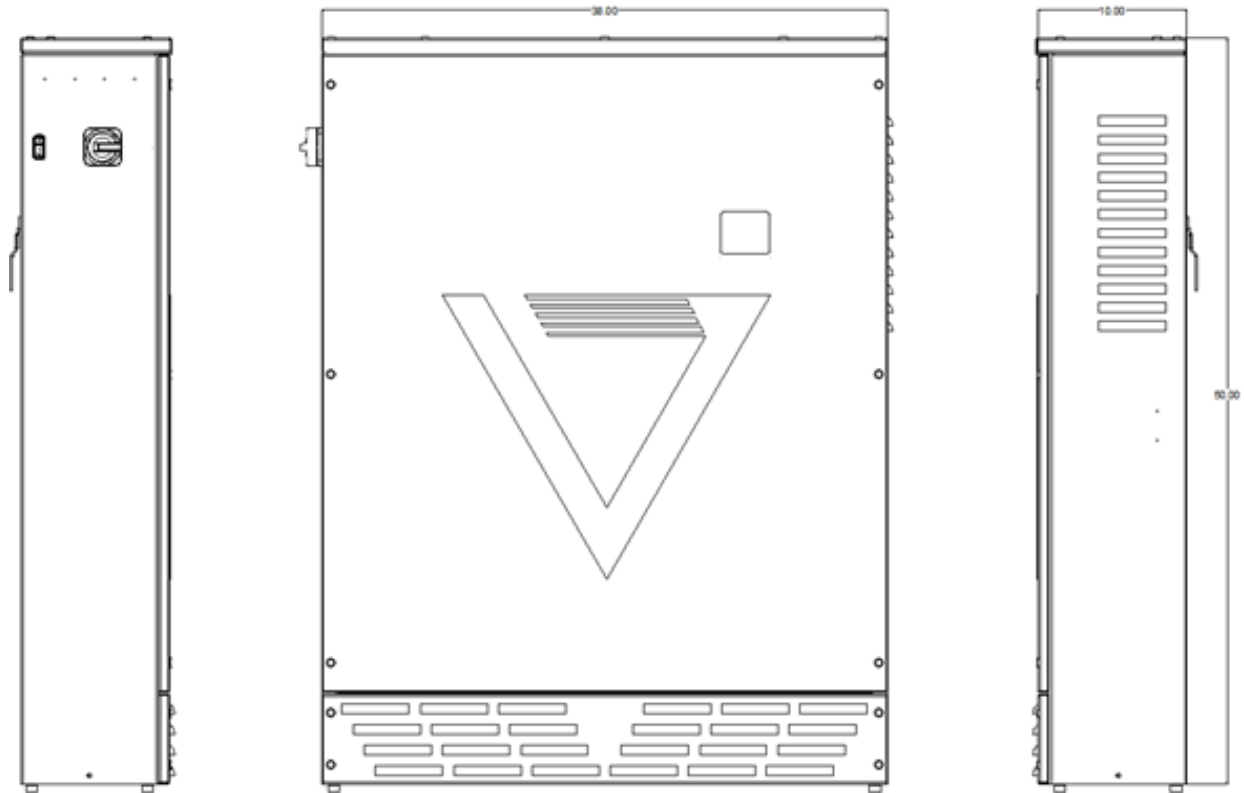

Figure 4
The NV14 Energy Storage System cabinet has four (4) conduit landing locations identified by ¼" diameter indentations in the upper left side and (2) on the middle right side of the enclosure (refer to Figure 4). It is the responsibility of the installer to determine the best location to punch for conduit knockouts.